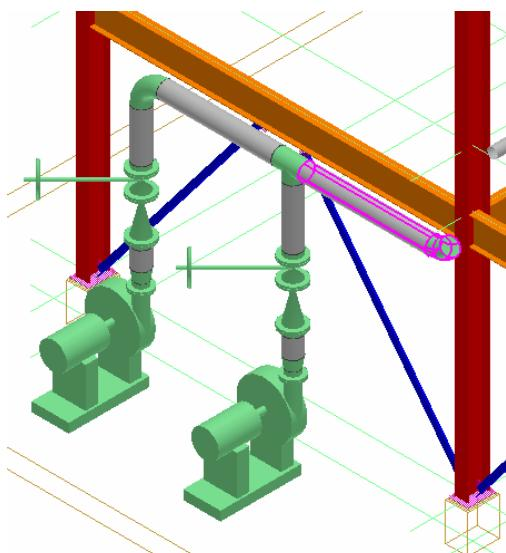

Figure 5: Remaining Selected Part of Pipeline 1001-P
3. Now select the remaining pipe parts belonging to **1001-P**, as shown in Figure 5.